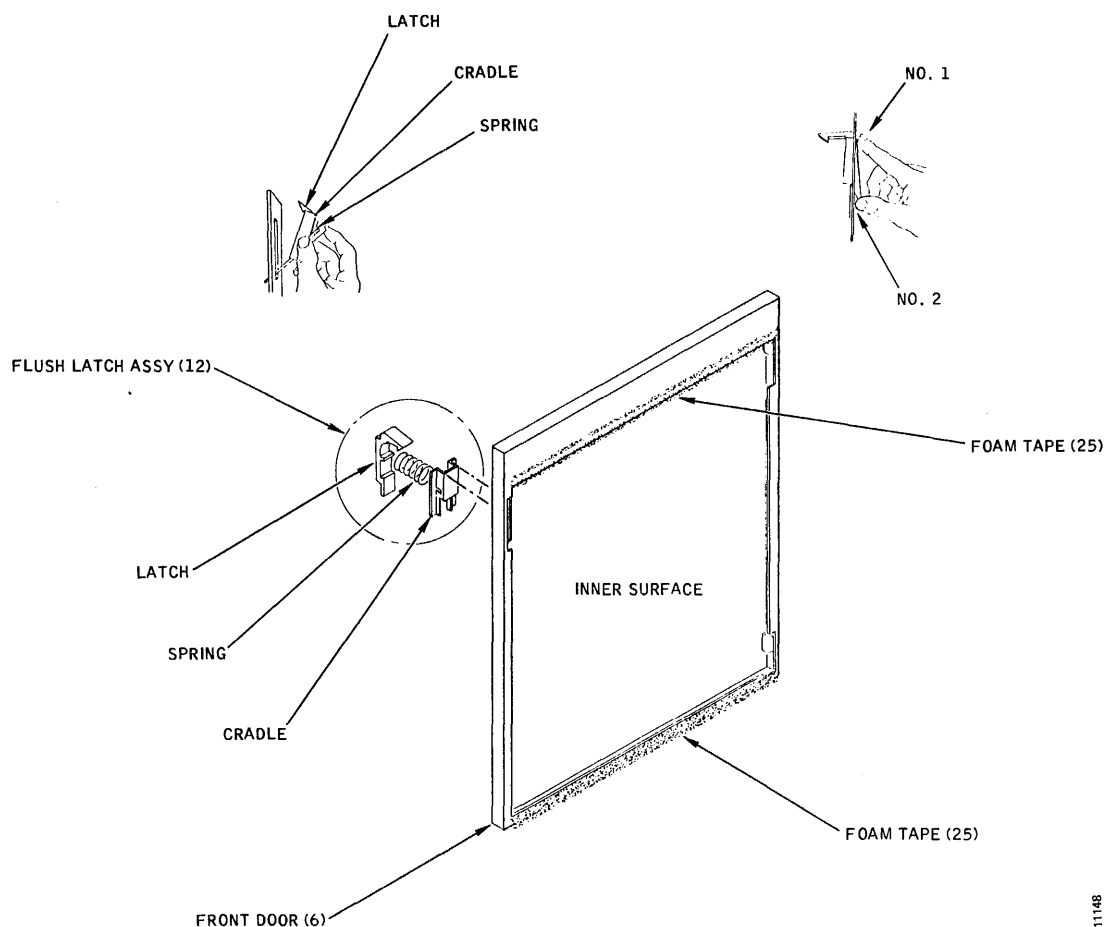

Figure A-8. Stand Assembly, Steps 15 and 16
15. Lay the Front Door (6) down on its finished surface, and apply two lengths of adhesive-backed Foam Tape (25) to the top and bottom inner edges of the door, as shown in Figure A-8.
16. Install the Flush Latch Assembly (12) into the rectangular cutout in the Front Door. To do this, refer to Figure A-8, and proceed as follows: